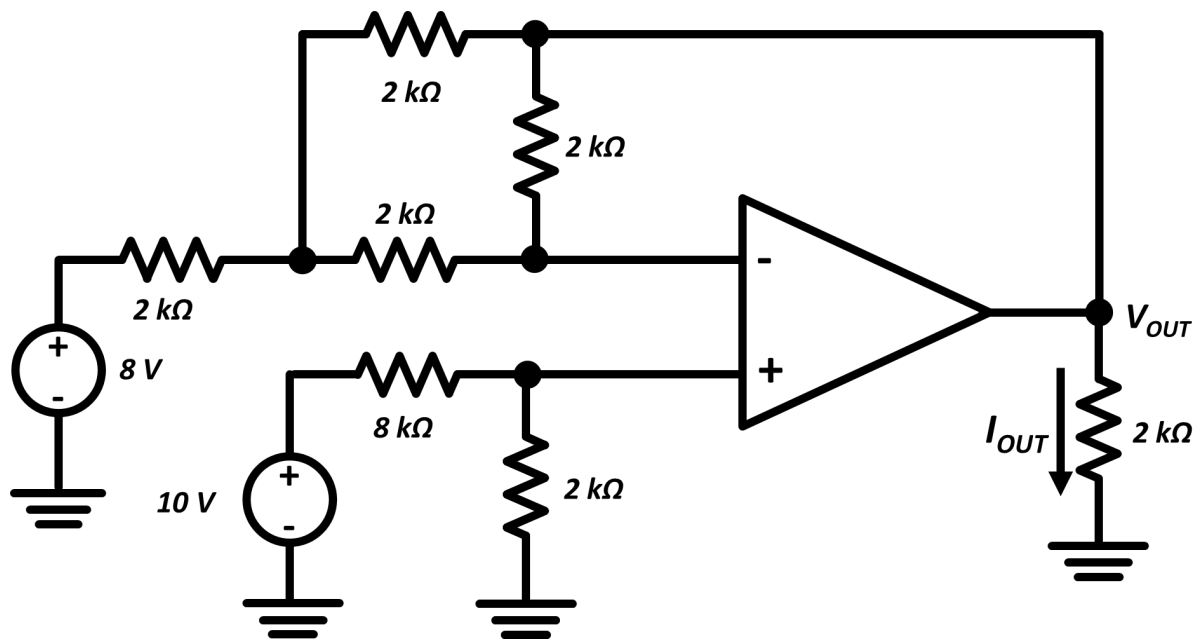

Figure 2
- (A) $R_1 = 995 \text{ }\Omega$, $R_2 = 12060 \text{ }\Omega$
- (B) $R_1 = 12060 \text{ }\Omega$, $R_2 = 995 \text{ }\Omega$
- (C) $R_1 = 2652 \text{ }\Omega$, $R_2 = 4522 \text{ }\Omega$
- (D) $R_1 = 4522 \text{ }\Omega$, $R_2 = 2652 \text{ }\Omega$
9. Calculate the value of I_{OUT} in Figure 2. The op-amp is supplied with a dual power supply of $\pm 5\text{ V}$.